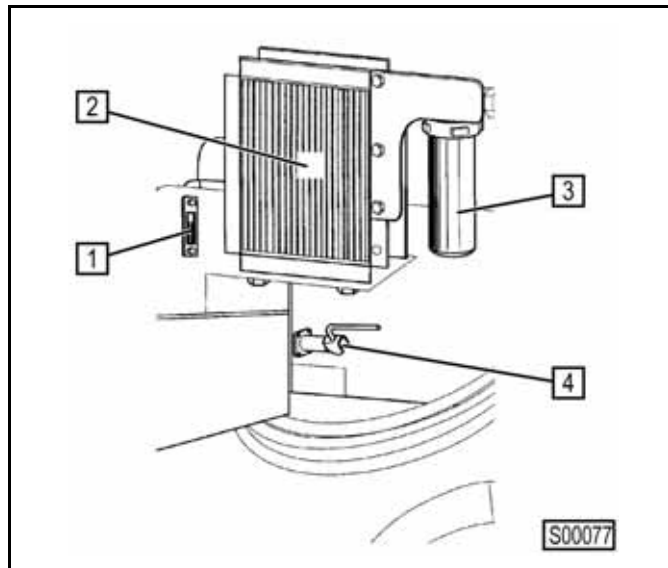

Fig. 56 Oil box
- Check the oil level of the hydraulic oil box on the inspection glass (1) (Fig. 56 Oil box).
When the oil is cold, the oil level indicator of the hydraulic oil tank inspection glass (Fig. 56 Oil box) must be located between the "Min" and "Max" marking.
Caption (Fig. 56 Oil box)